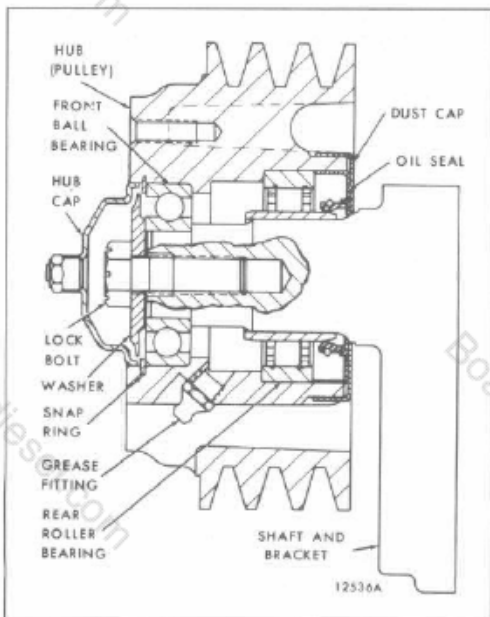
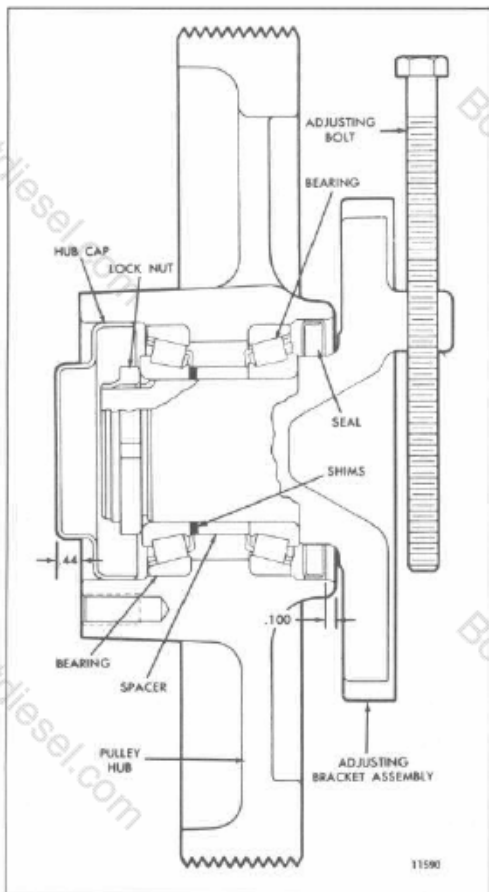

Fig. 3 - Three Groove Pulley Hub (Current)
Fig. 5 - Typical 16V Engine Poly-V Groove Pulley Hub and Adjusting Bracket
The three groove pulley hub (Fig. 2), used on 6V, 8V and certain 16V engines, turns on a double-row ball bearing at the front and a single-row (shielded) ball bearing at the rear of the hub. A new three groove pulley hub, for all engines including the 12V engines, turns on a front ball bearing and a rear roller bearing and also includes a hub cap (with relief valve), a dust cup and a grease fitting (Fig. 3). On 6V and 8V compact front end engines, the pulley hub turns on tapered roller bearings (Fig. 4). The Poly-V groove pulley hub used on some 16V engines turns on two single-row tapered roller bearings (Fig. 5).
Assemble Three Groove Hub And Bracket (Fig. 3)–Current
3. Press a new oil seal in .100" from the end of the pulley hub (Fig. 5).
11. Fill a new hub cap 75% (minimum) full of grease and install it in the pulley hub (Fig. 5).